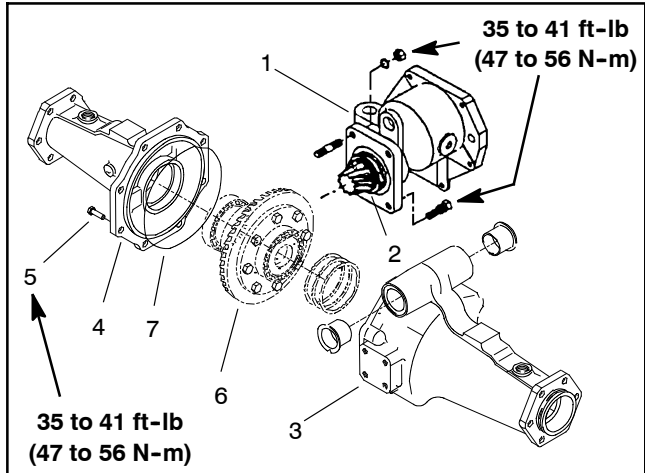

Figure 39
3. Remove input shaft/pinion gear assembly, shims and O-ring from the axle support (Fig. 39).